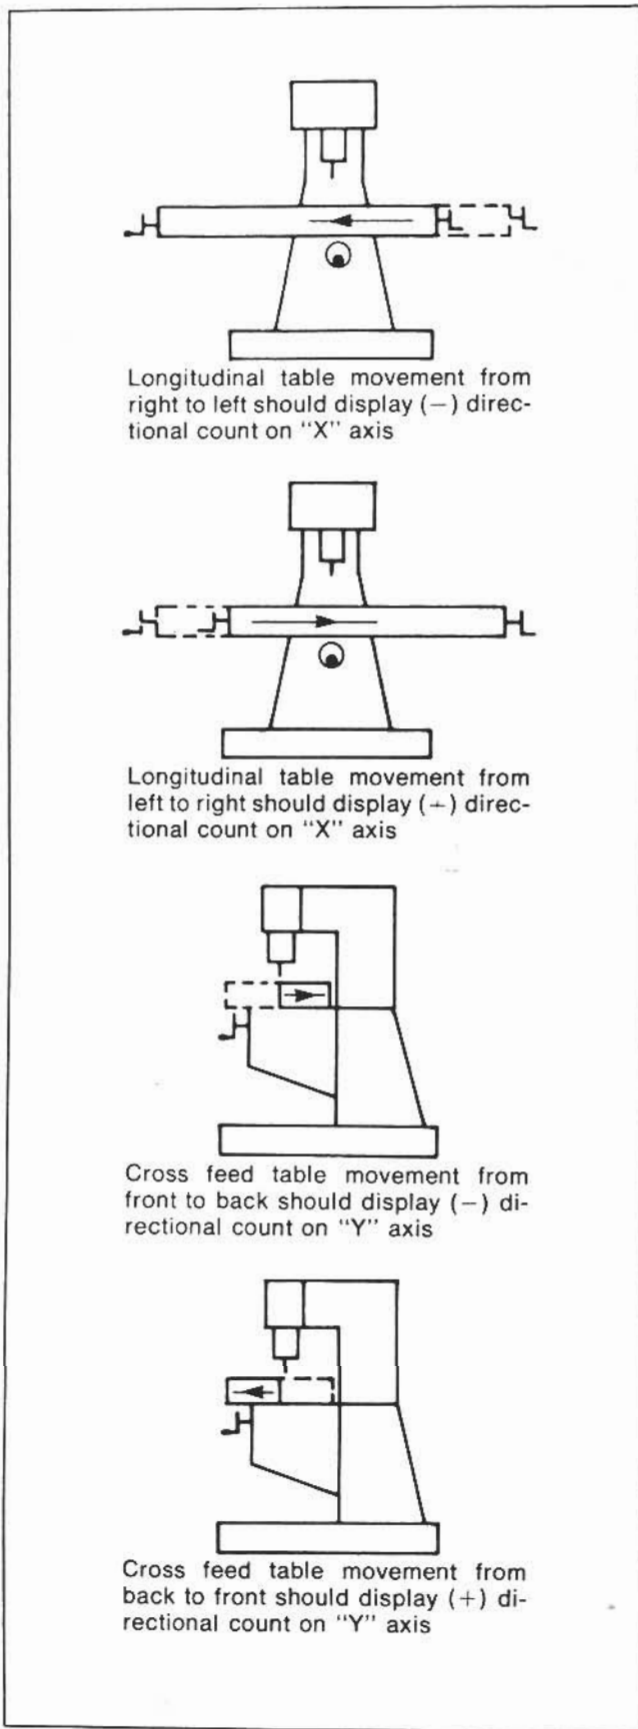

Figure 12. Proper +/- Directional Counts for Longitudinal and Cross-Travel Table Movements
- h. Move the table or slide to insure proper axis display change and +/- directional count (see Figure 12).